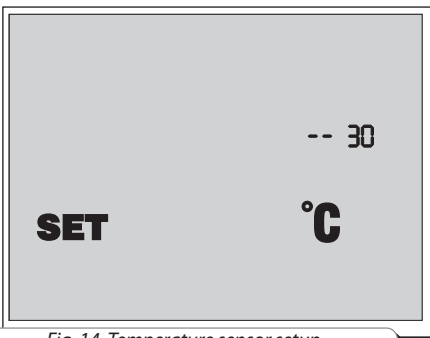

Fig. 14. Temperature sensor setup
- After activation of the setup mode the wall-mounted control panel displays the duct temperature sensor settings, fig. 14.